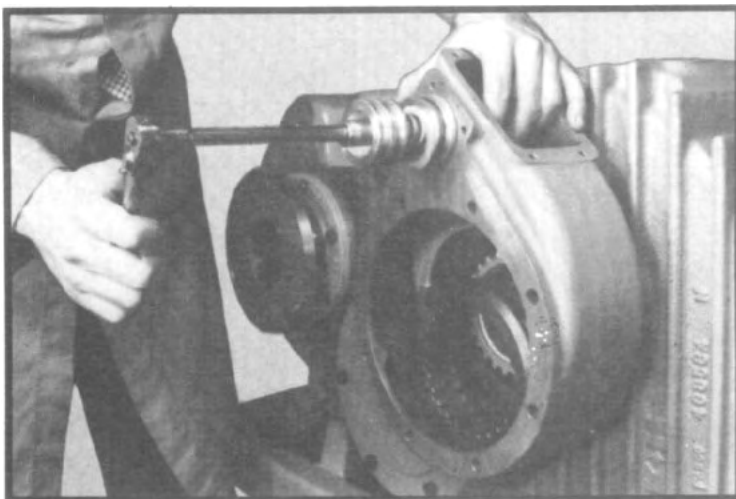

Fig. 180
9. Install shift shaft nut and washer. Tighten nut to correct torque. (See fig. 180.)